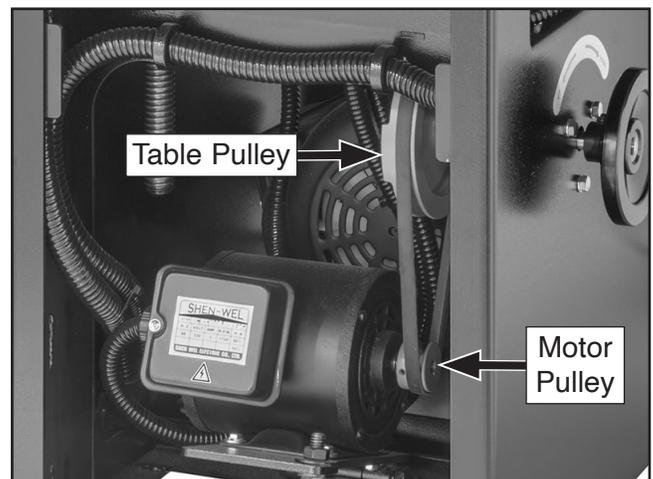

Figure 67. Location of table and motor pulleys.
4. Place new V-belt onto table pulley, then loop other end of V-belt around motor pulley (see **Figure 67**).